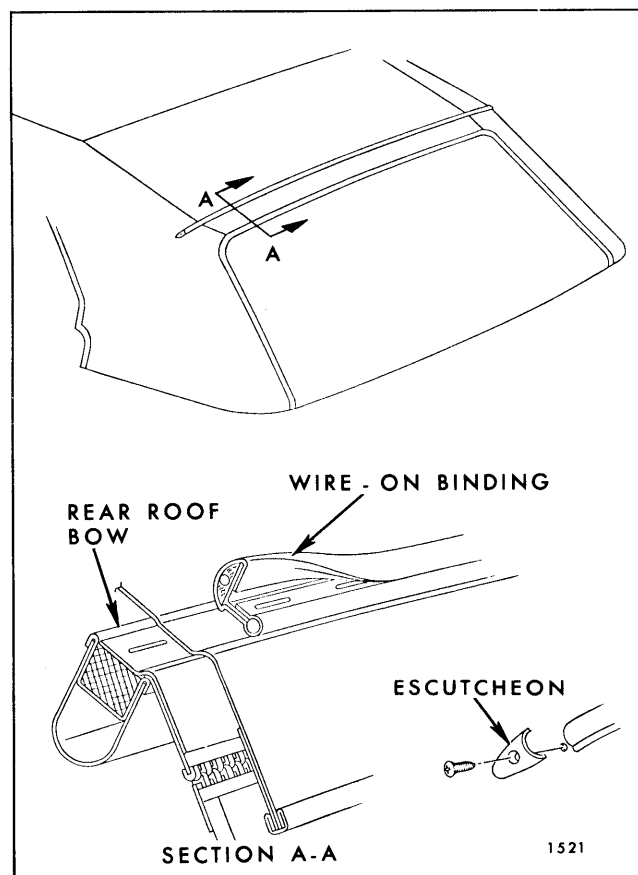

Fig. 13-45—Rear Roof Bow Wire-On Binding
8. Remove screw securing escutcheon clip at each end of wire-on binding on rear bow. Remove wire-on binding from rear bow (Fig. 13-45).